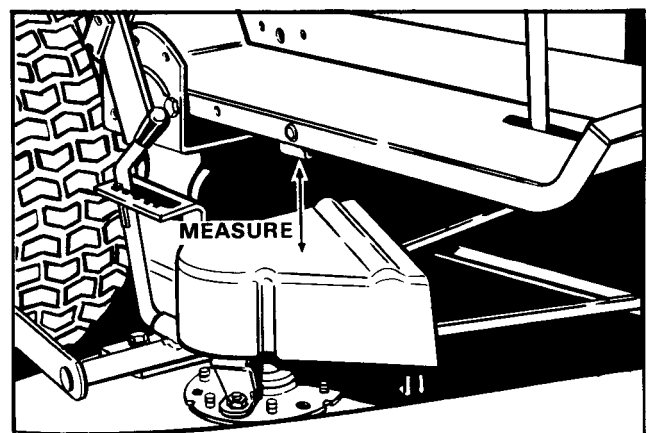

Figure 9. 42" Mower
- b. Measure the distance between the arbor cover and the upstop bracket (figure 9). It should be 1-13/16".